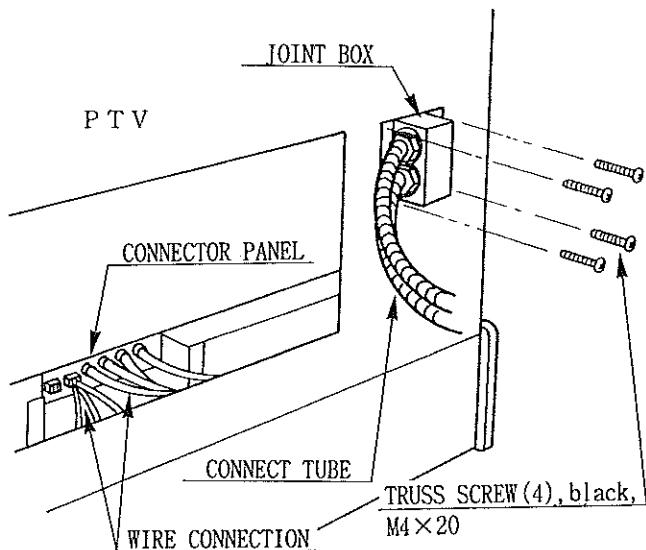

FIG. 6. 2 a
- ① Remove the PTV's SERVICE DOOR and FRONT CABINET DX BACK LID.
- ② Put the CONNECT TUBE's wiring connectors in the square hole beside the SERVICE DOOR and secure the JOINT BOX with 4 truss screws by paying careful attention that the connectors are not damaged.
- ③ Connect the CONNECT TUBE's wiring connectors to the connector panel inside the PTV. At this time, make sure that the wire color (red, green, blue and the remaining color) corresponds with the applicable symbol of the connector panel's display (R, G, B, and SYNC terminals). (FIG. 6. 2 a)